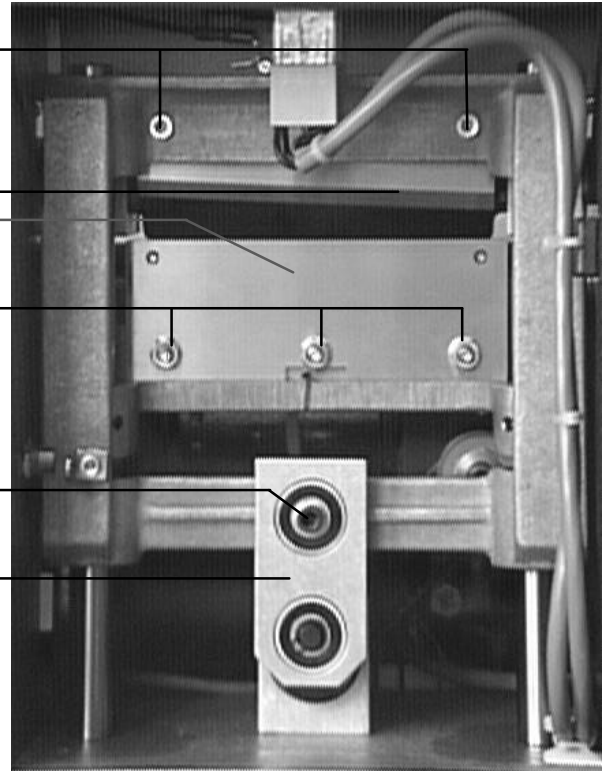

Figure 15. Replacing upper blade
- Clean the cutting zone (Figure 15, Page 39) using a paintbrush and a vacuum cleaner attachment.
- Remove the upper screw on the connector rod. It is secured with a *lock nut* (Figure 15).
- Remove the upper screw on the connector rod. This is secured with a *lock nut* (Figure 15, Page 39).